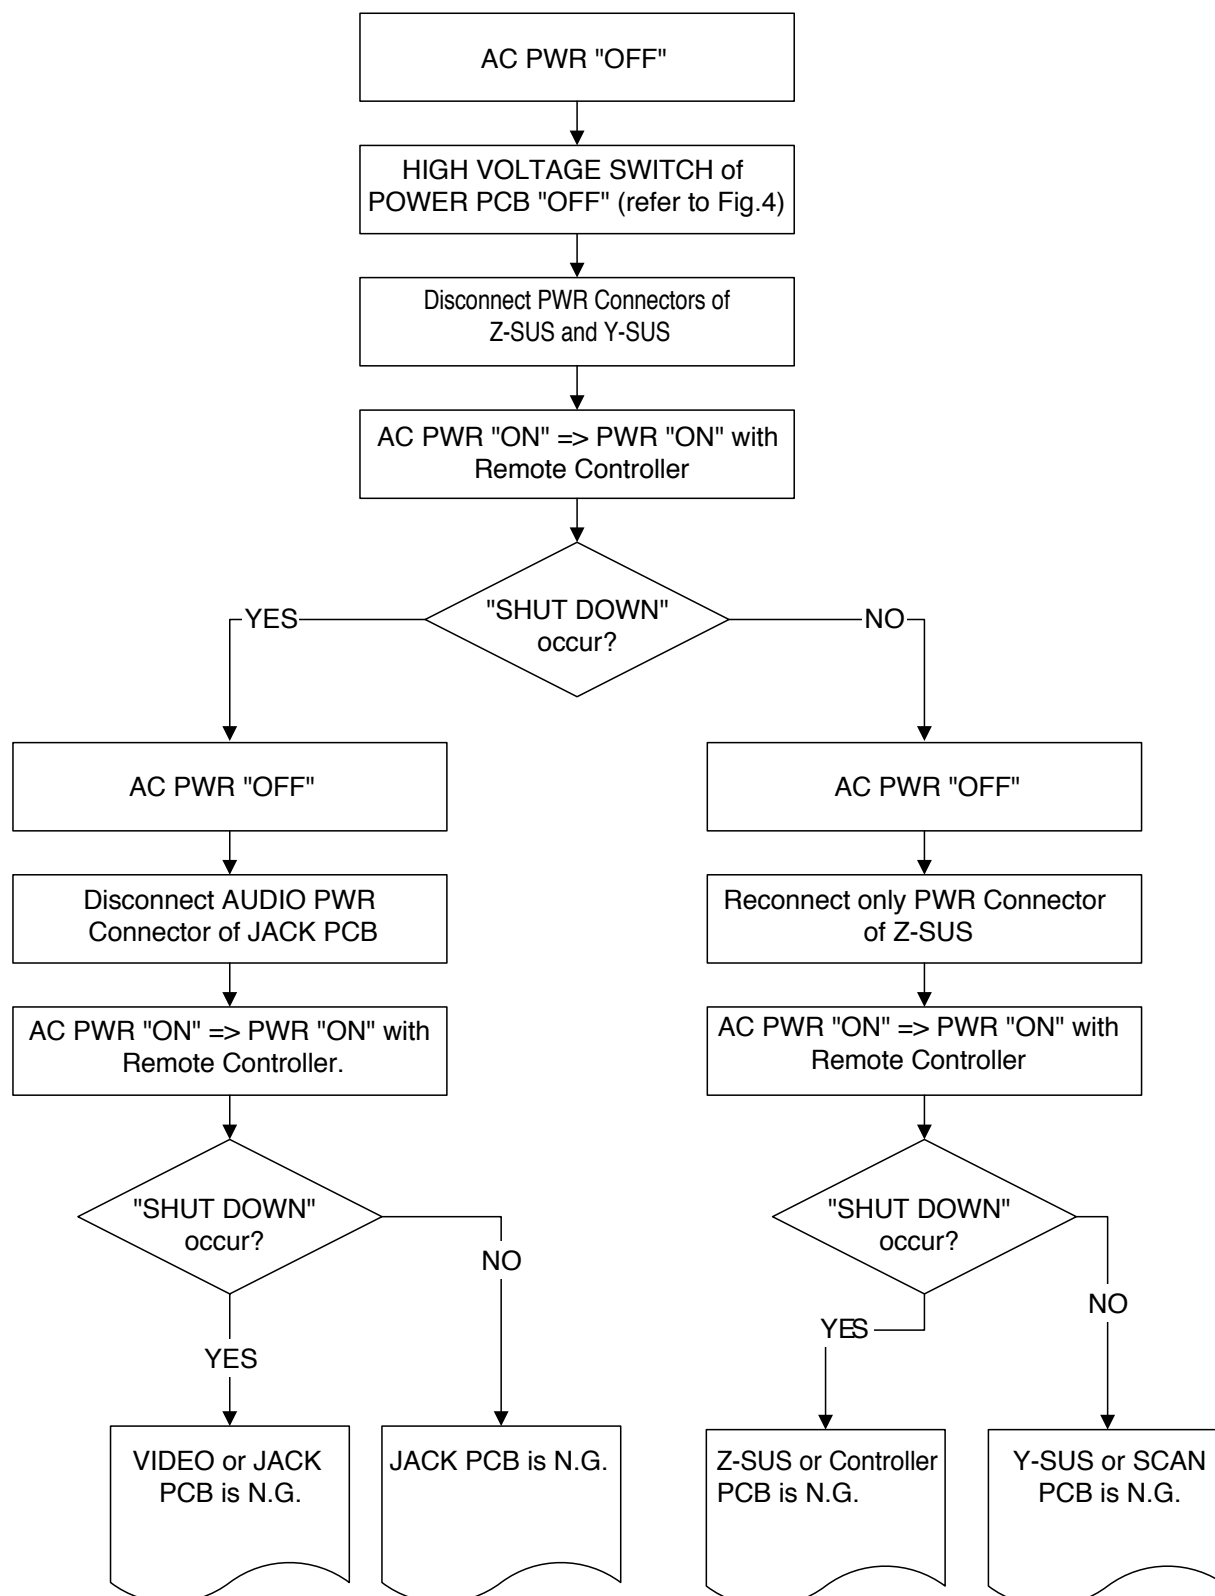

Fig. 6 Trouble Diagnosis Flow when LOW VOLTAGE "SHUT DOWN" occurs
- If “LOW VOLTAGE” part is broken is checked, as shown in Fig. 6 diagnose the SET and then replace the broken PCB.